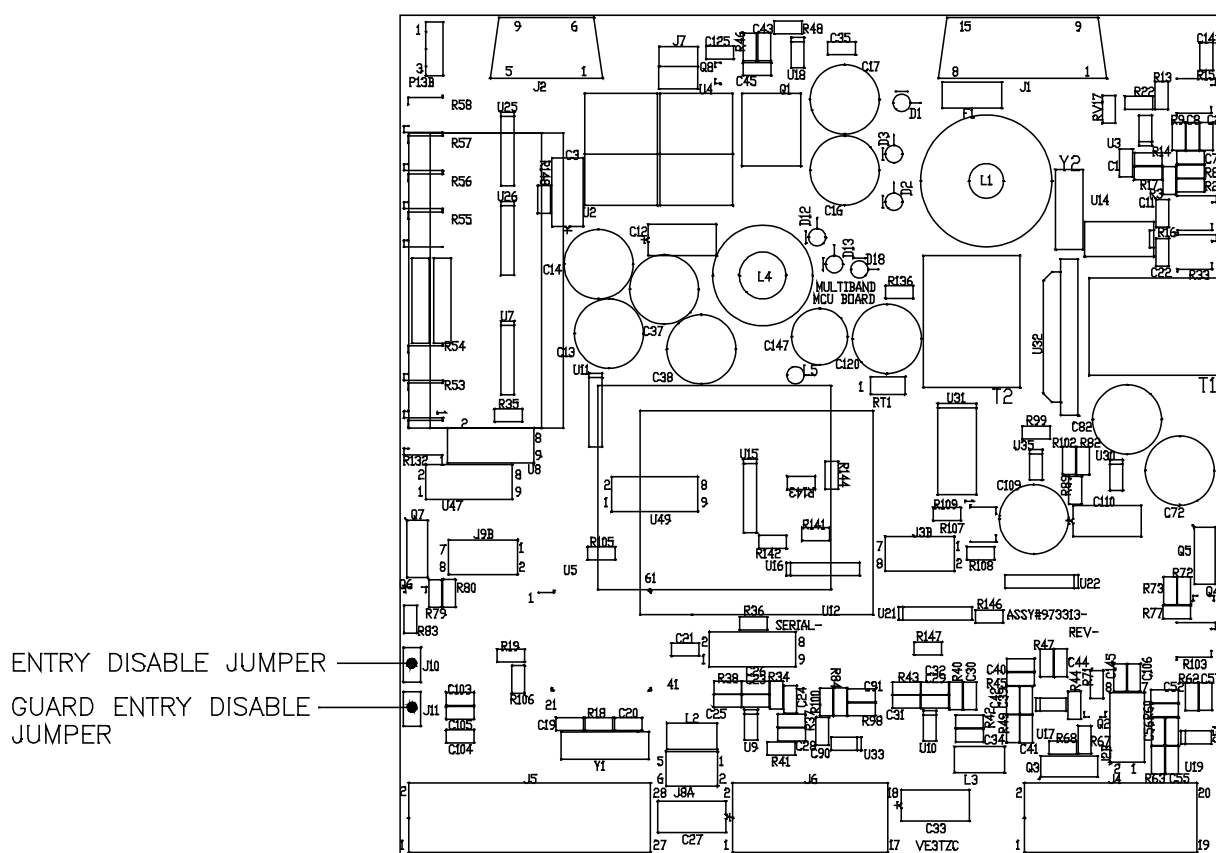

FIGURE 3.3 Microprocessor Control Unit (MCU) PCB Module:
3. In low power mode, set the low power adjustment potentiometer on the left side of the chassis to produce 1.0 watt of RF output power (See Figure 3-3).